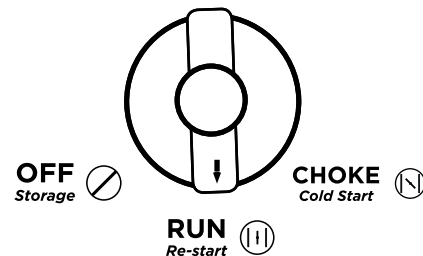

Figure 9: Turn Engine/Fuel Switch to RUN
6. As the engine starts and stabilizes, turn the choke switch back in to the **RUN** position (see Figure 9).